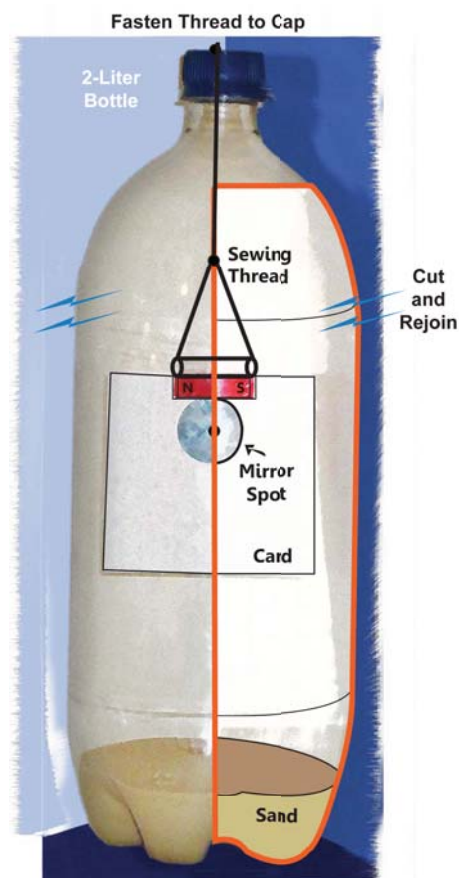

Figure 1
5. Create a 'sensor card' by cutting the index card so that it swings freely inside the bottle (See Figure 1).
- *see the tips and tricks in Figures 1, 2 and 3**